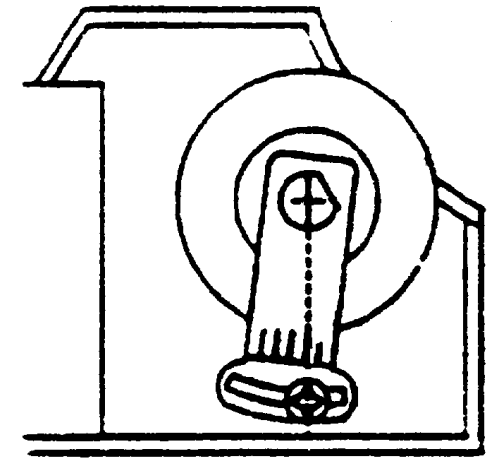

Figure 3. Reinstalling the Positioning Plate (Right side)
4. Mark the current position of the Positioning Plate before removing it (see Figure 3).
1. (Figure 3): Reinstall the Positioning Plate at the second mark.